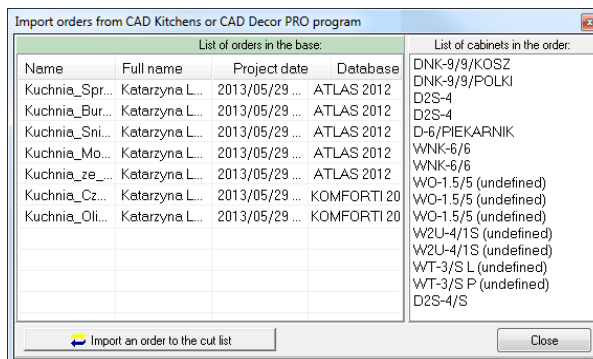

Fig. 47 – importing an order from CAD Decor PRO
- 6) Import orders from CAD Kitchens or CAD Decor PRO - opens a window called 'Import orders from CAD Kitchens or CAD Decor PRO' (Fig. 47), in which you can get to the cut list the formats of components of all cabinets from a chosen order created in CAD Kitchens or CAD Decor PRO. In this window you will see a list of orders created in the above programs, but only those, which have been at least once valued (this means that during working in CAD Kitchens or CAD Decor PRO you used the 'Valuation' option in the CAD-Kitchens toolbar).